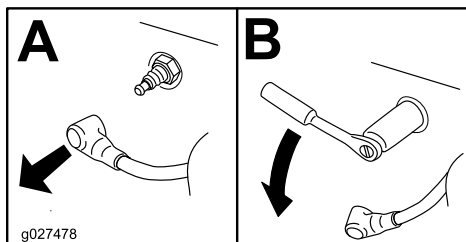

Figure 39
3. Remove the spark plug (Figure 39).